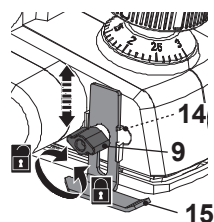

Fig. 4
1. Align the slot of the rebate depth gauge (15) to the mounting thread (14) and fix it with a wing screw (9) (Fig. 4).
2. Adjust the rebate depth gauge (15) to the desired depth use the scale as orientation.
3. Tighten the wing screw (9).